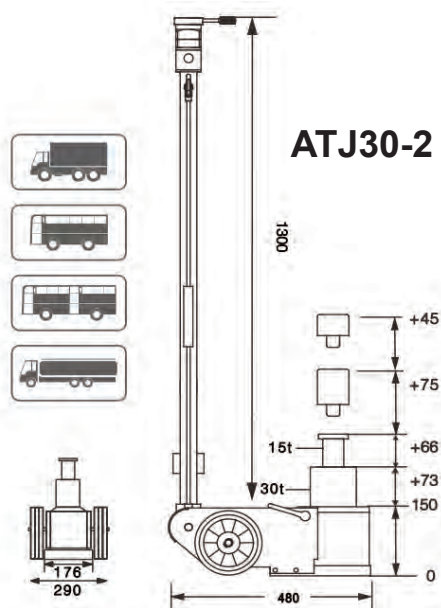

Fig. 08
**1. Technical Data (See figures 08, 09 & 10)**